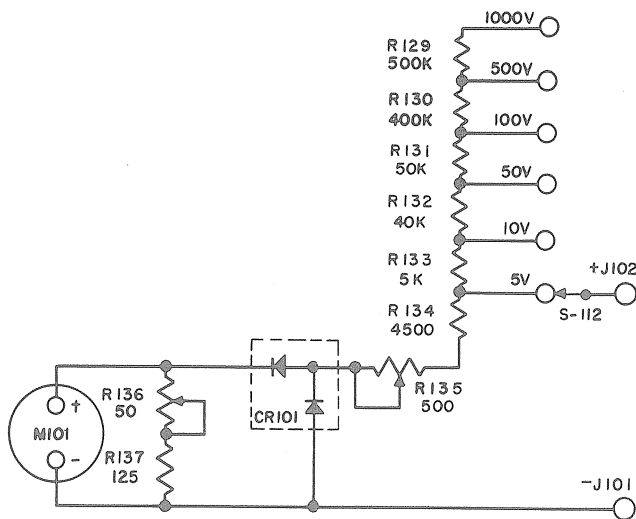
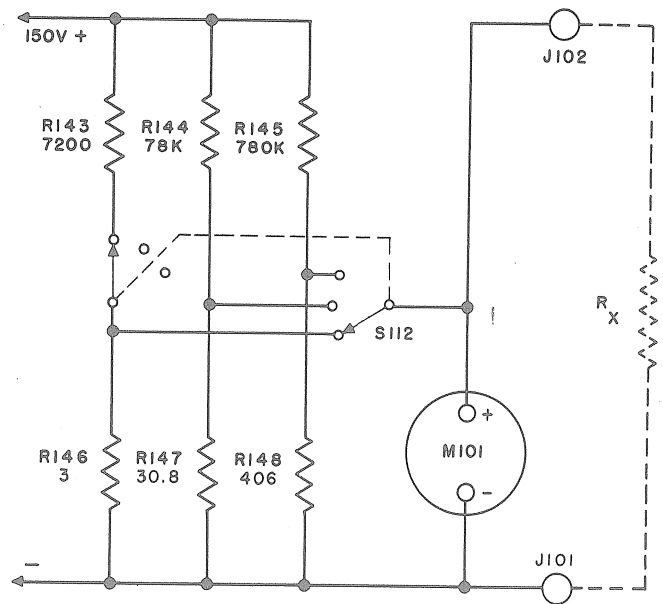

Figure 2-10.—Simplified AC Voltmeter Circuit.
Figure 2-11.—Simplified Low Range Ohmmeter Circuit.
(2) With the FUNCTION selector switch S-111 in the DC VOLTS position test jacks J-101 and J-102 are connected to the meter circuit through RANGE selector switch S-112 which selects the proper tap in the multiplier resistor series for the voltage to be measured.
(3) The sensitivity on the dc ranges is 20,000 ohms per volt.
b. VOLTS AC (See Figure 2-10)
(1) The circuit for ac voltage measurements consist of the METER M-101, copper oxide rectifier CR-101, and resistors, R-135, R-136 and R-137 as shown in Figure 2-10. R-135 and R-136 are adjusted to compensate for slight variations in rectifiers.
(2) When the FUNCTION selector switch is set at the AC VOLTS position the potential to be measured is connected to the bridge circuit through the RANGE selector switch S-112 which is used to select the proper tap on the series of multiplier resistors, R-129 through R-134.
(3) The sensitivity of the multimeter on the ac ranges is 1000 ohms per volt.
c. OHMS (See Figures 2-11 and 2-12)
(1) The low ranges: 3, 30 and 300 OHMS AT CENTER SCALE.
(a) The circuit established when the FUNCTION selector is set for OHMS and the RANGE selector is in one of the three low resistance positions is shown in Figure 2-11.